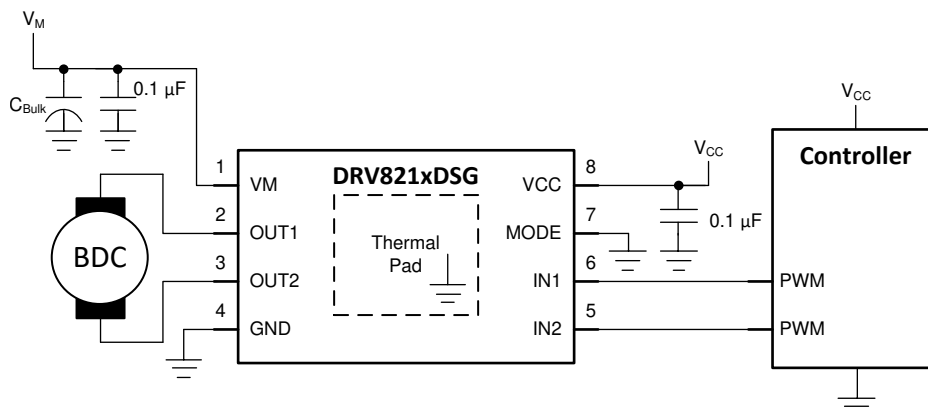

Figure 6-5. DRV821xDSG PWM single motor operation
2. Connect a motor across OUT1 and OUT2. See Figure 6-5 for a block diagram of the DRV821xDSG.